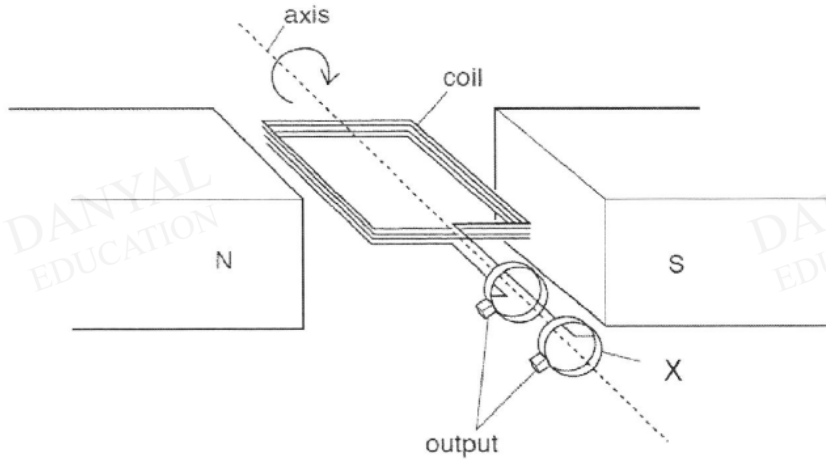

Fig 8.1
Fig. 8.1 shows an a.c. generator.
- (a) The coil starts to rotate from the position shown in Fig. 8.1.